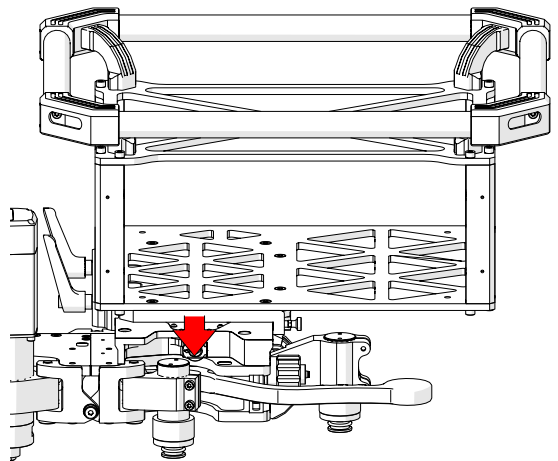

Fig. 95 - Slide onto instrument box mount
2. Align the instrument box frame with the instrument box mount on the carriage and slide the instrument box frame onto the mount (*Fig. 95*).